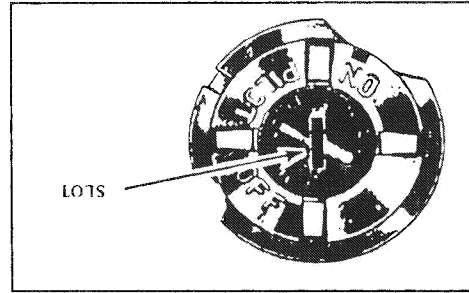

Fig. 1
Robertshaw “Unitrol” (Fig. 1)
1. Remove regulator adjustment cap by inserting screwdriver in slot and rotating counterclockwise (See Fig. 1).